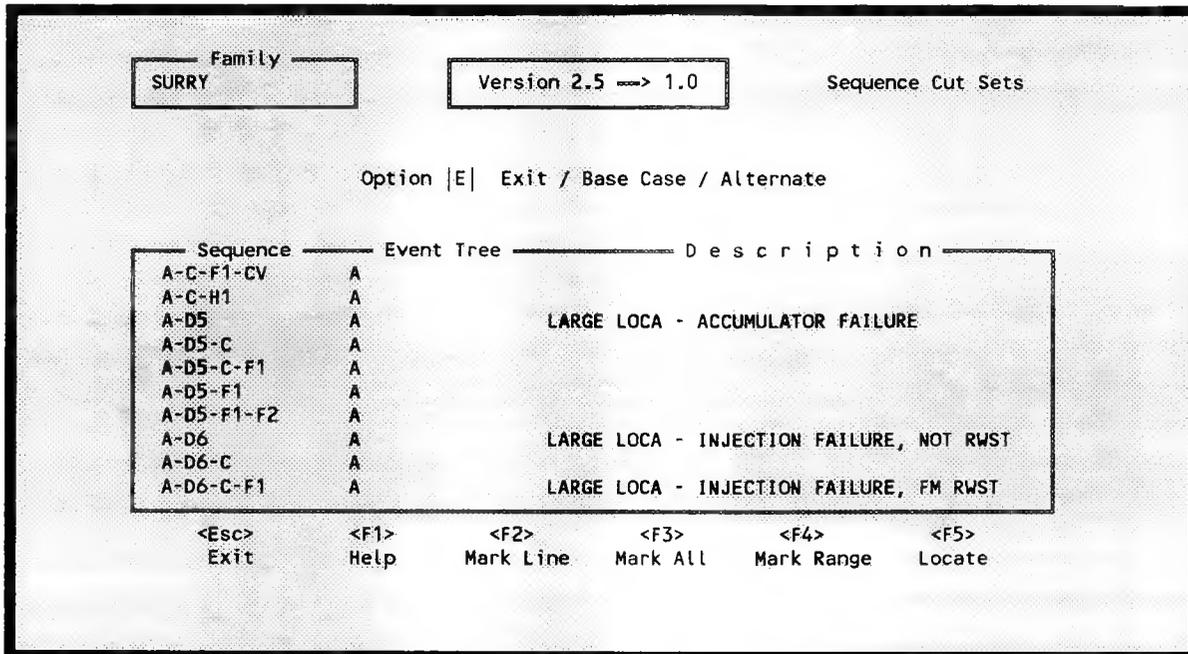

Figure 339. Sequence cut sets screen.
10.5.3.4 Sequence Cut Sets. This option allows you to convert sequence cut sets generated by IRRAS Version 2.5 to Version 1.0 ".CUT" files. To invoke this option, type an <S> in the option field, or highlight "Seq. Cut Sets" and type <Enter> or <->. Figure 339 will be displayed listing all the sequences in the current family. On this screen, you have three options: Exit, Basecase, or Alternate.